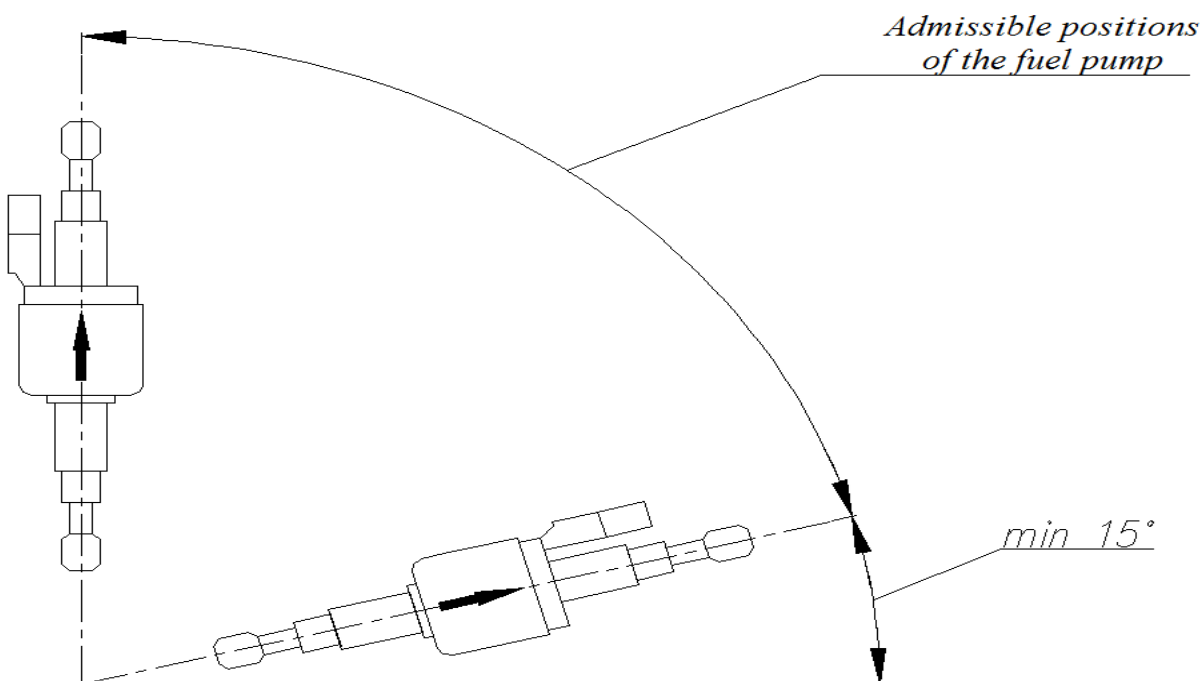

Fig. 10 Admissible assembling positions of the fuel pump
- It's preferable to place the axle of the fuel pump closer to the vertical (see figure 10)